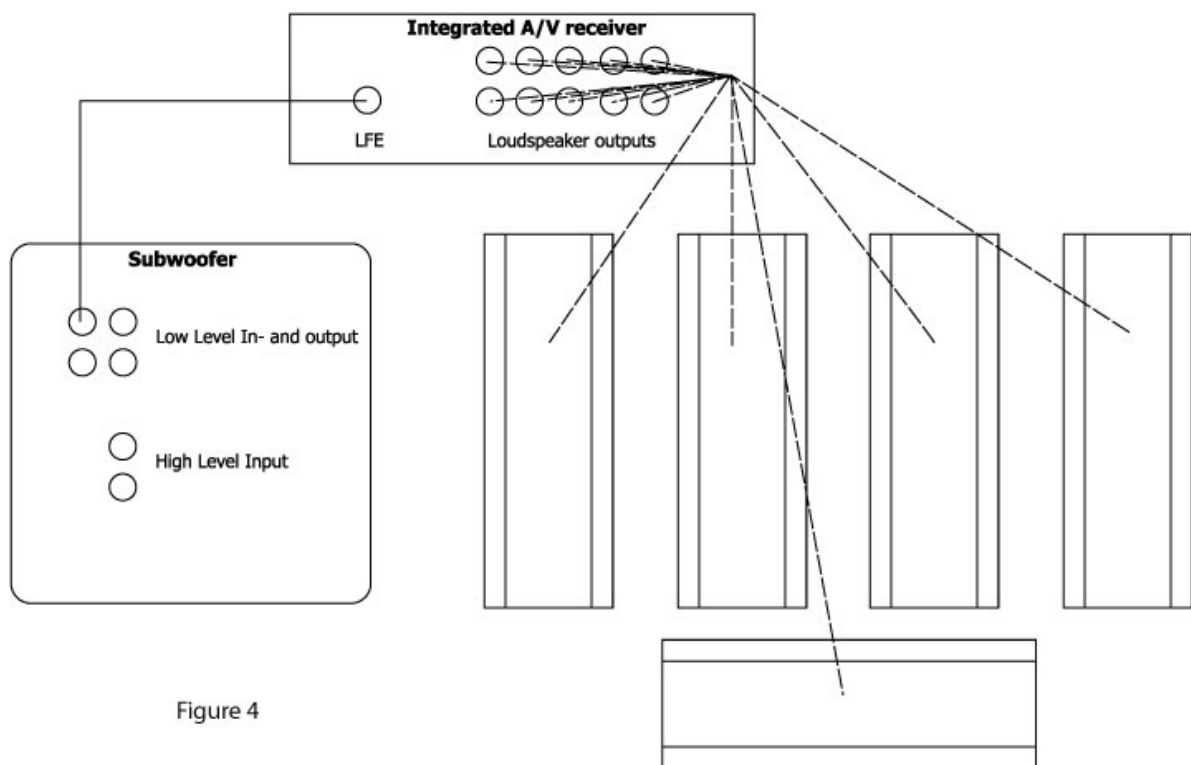

Figure 4
**(Figure 4) If you have an AV-receiver for five, six or seven channel Dolby Digital/DTS surround sound, you can use the 'standard' connection method for subwoofers.**